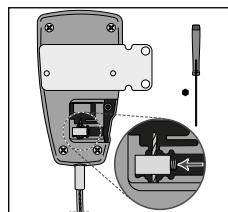

Fig. 6
5. Use the Allen screwdriver to loosen the cone point safety screw two to three turns and slide the Cable End Block of the inner cable (see Fig. 6).